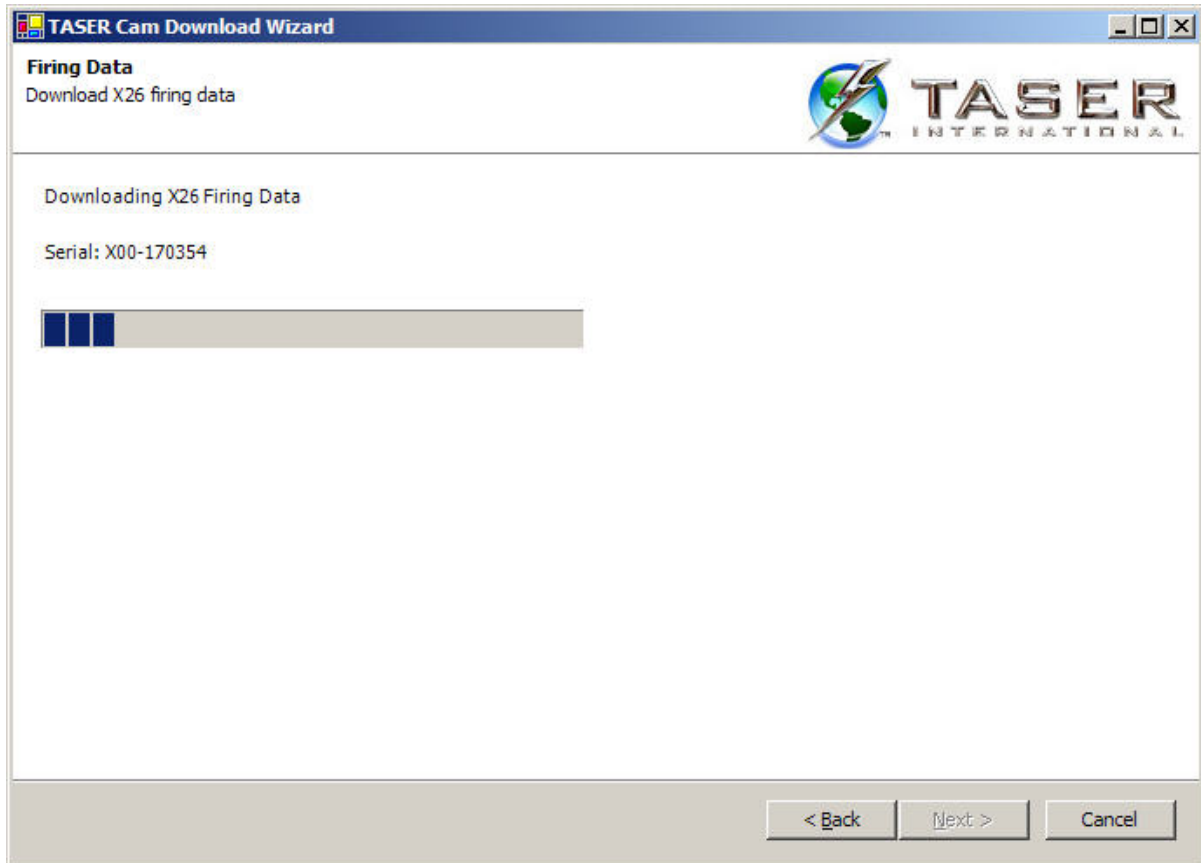

Figure 18
9. If a weapon is connected, the firing records will also be downloaded (Figure 18).